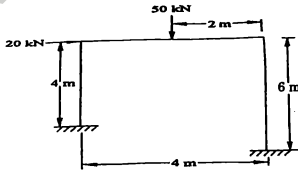

Figure 8
- (b) Determine the plastic moment capacity of the frame for the loading as given in Figure 8. Assume same section is used throughout.